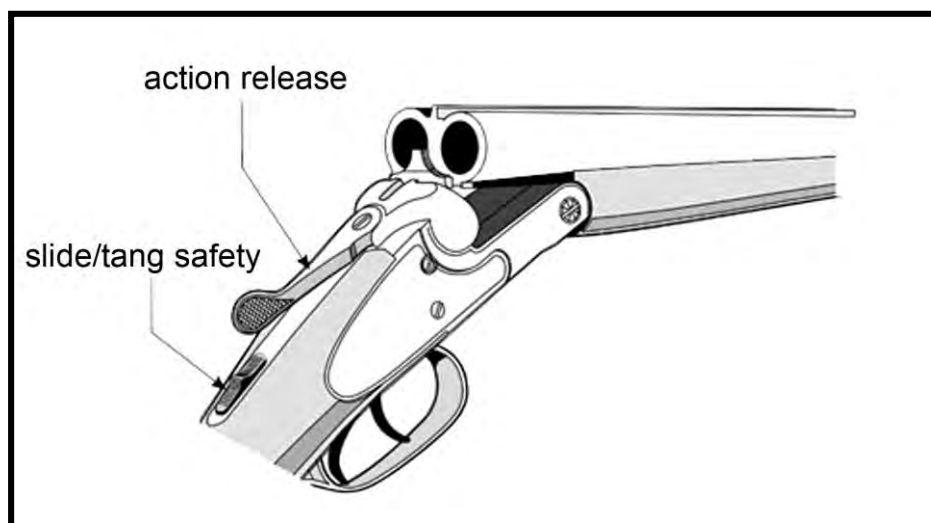

Figure 41. Side/Tang Safety
- c. Common types of safeties on non-restricted firearms are the slide/tang, pivot/lever/rocker, wing, trigger block/lever, and cross-bolt or button safety (Figures 41 to 44). In addition, some lever action firearms and muzzleloaders use a half-cock safety.
This safety is common on shotguns and rifles (Figure 41). It is usually on the right side of the receiver on rifles, and the top of the receiver on shotguns. It blocks the firing mechanism. Some modern lever actions also have slide- or button-type safeties located in the action area.